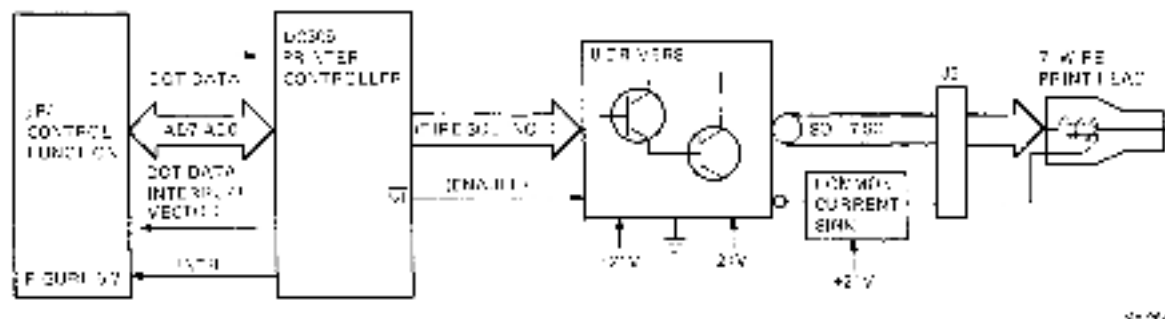

Figure 5-17 Printing Logic
5.4.4.3 Character Printing Figure 5-17 shows the logic connected with the impact printing process. When there is at least one character to print, the microprocessor/control function first clears, then loads the first-in/first-out dot buffers (dot FIFOs) to the DC305 with the first four columns of character or graphic dot data. The dot FIFOs are used to buffer and transmit character (or graphic) dot patterns from the microprocessor to the printhead solenoid drivers.